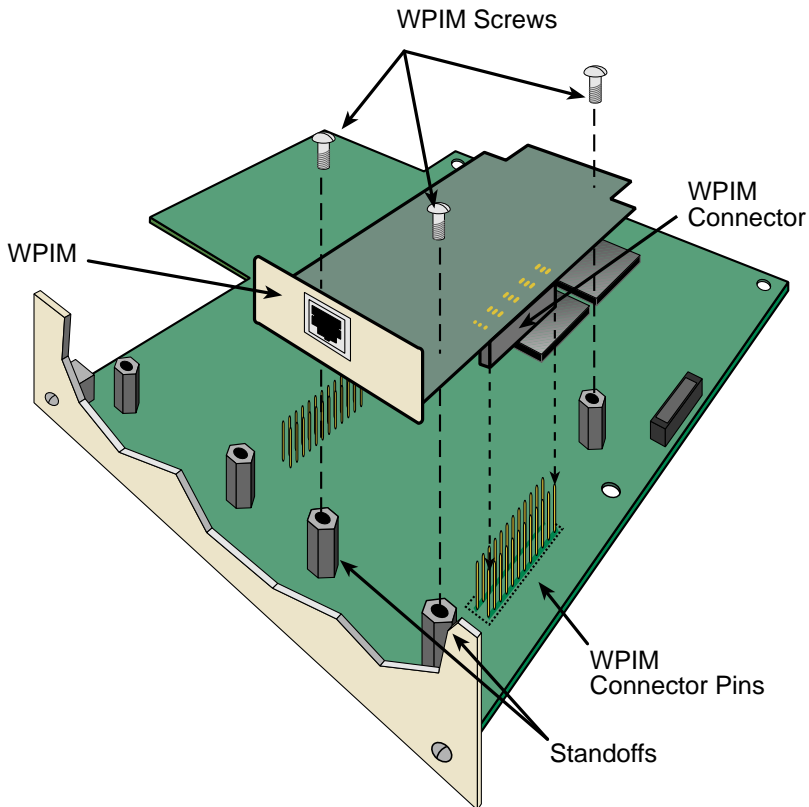

Figure 5 Installing WPIMs
To install a WPIM into the CSX200, refer to **Figure 5** and complete the following steps:
4. Orient the WPIM as shown in **Figure 5**.